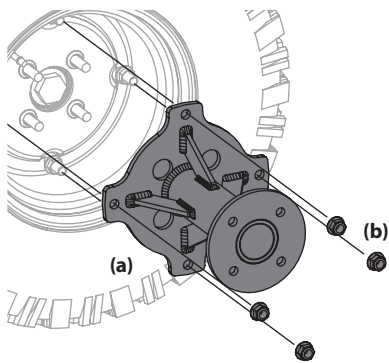

Figure 4-14
2. If necessary, remove the dual wheel adapter (a) by removing the four flange lock nuts (b). See Figure 4-14.